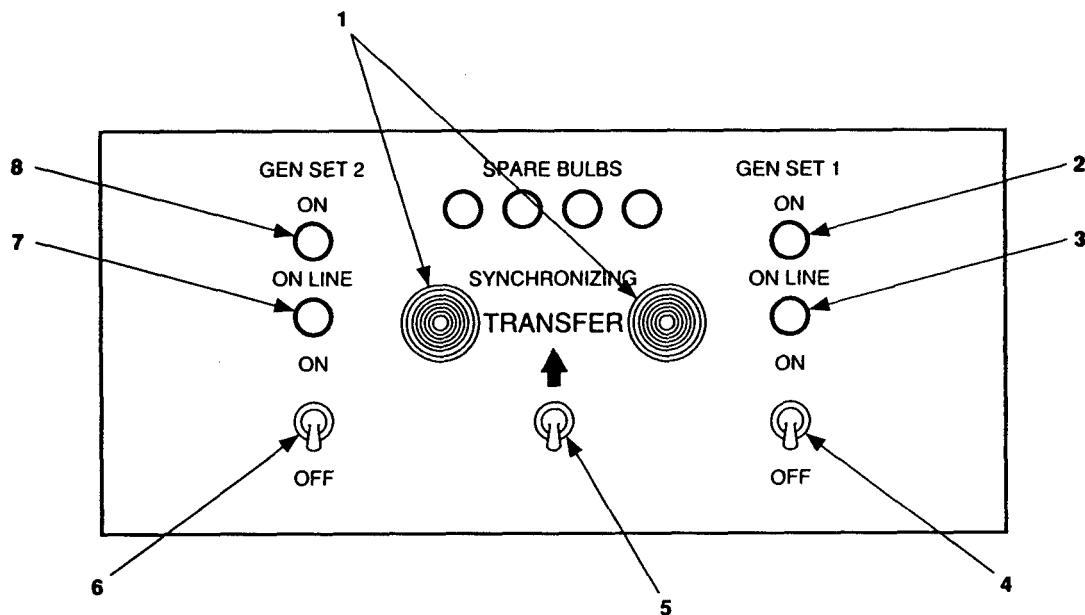

Figure 2-10. Power Plant Operation.
- b. Check that both ON/OFF switches (4 and 6, figure 2-10) on switch box are at center position.
- c. Check that TRANSFER switch (5) on switch box is at bottom position.
- (1) Refer to table 2-2 and perform the "Before" PMCS.
- (2) Check that switch box ON/OFF switch (6 or 4) is at center position.
- (3) Check that switch box TRANSFER switch (5) is at bottom position.
- (4) Refer to TM 9-6115-641-10 and:
- (5) Check switch box controls and indicators (figure 2-10) to ensure that:
- (6) Move switch box TRANSFER switch (5) in the direction of the arrow. All SYNCHRONIZING lights (1 and 9) should be going from bright to dark at the same time. If SYNCHRONIZING lights do not begin to function, report problem to next higher level of maintenance.
- (7) Refer to TM 9-6115-641-10 and:
- (8) When SYNCHRONIZING lights (1 and 9) are dark, hold the switch box ON/OFF switch (6 or 4) for the generator set that was just started to ON position until ON light remains on. Release the switch. The ON LINE light for the first generator set that was running should immediately go out.
- (9) Check switch box lights, as follows:
- (1) Shut down generator set that is now off line.
- (2) Using generator set VOLTAGE adjustable rheostat, adjust voltage of generator set that is now on line to the desired value.
- (3) Using generator set frequency adjust control, adjust frequency of generator set that is now on line to desired value.
- a. Set the switch box ON/OFF switch (6 or 4, figure 2-10) for the generator set to be stopped to OFF position.